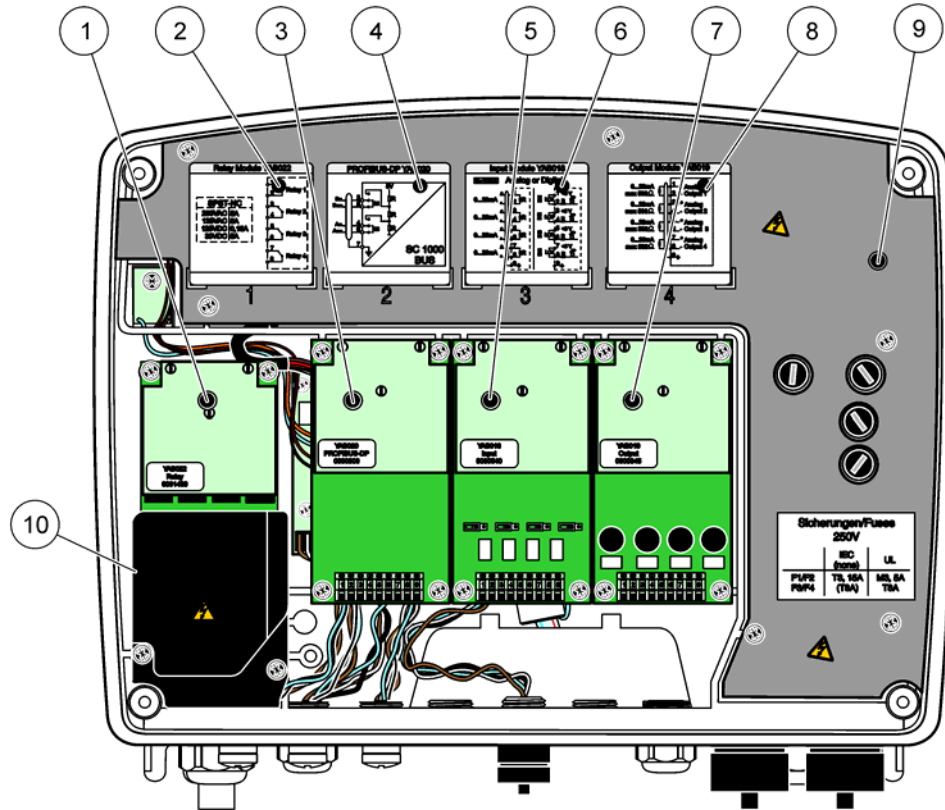

Figure 18 Expansion card ports
3. Connect the relay card to the appropriate slot (Figure 18). Use a magnetic screwdriver to secure the four phillips-head screws to the card. It is easier to connect the cards with the module in its normal vertical mounted position, rather than laid horizontally on a bench.
6. Write the serial number from the rating plate on the supplied sticker and attach it to the main high voltage barrier (Figure 18). This serial number is the same internal address of the card on the network.
2. Connect the input card to the appropriate slot (Figure 18). Use a magnetic screwdriver to secure the four screws to the card.
5. Write the serial number from the rating plate on the supplied sticker and attach it to the main high voltage barrier (Figure 18).
2. Connect the output card to the appropriate slot (Figure 18). Use a magnetic screwdriver to secure the four screws to the card.